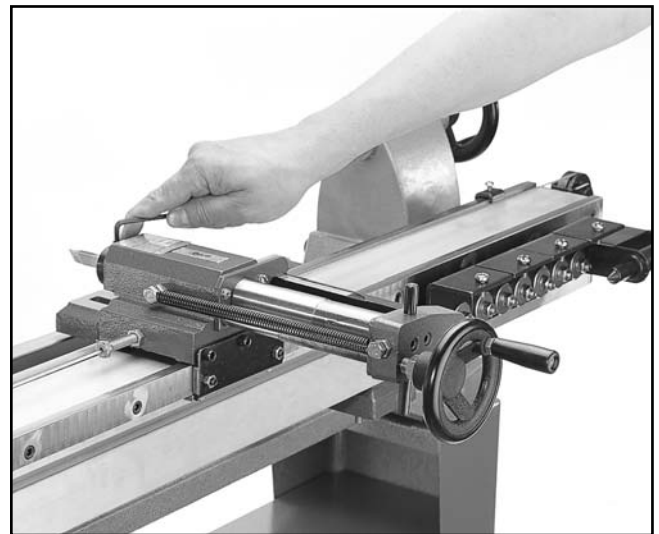

Figure 5. Securing cutting tool.
8. Install the cutting tool into the arbor and tighten the collar setscrew. **See Figure 5.**